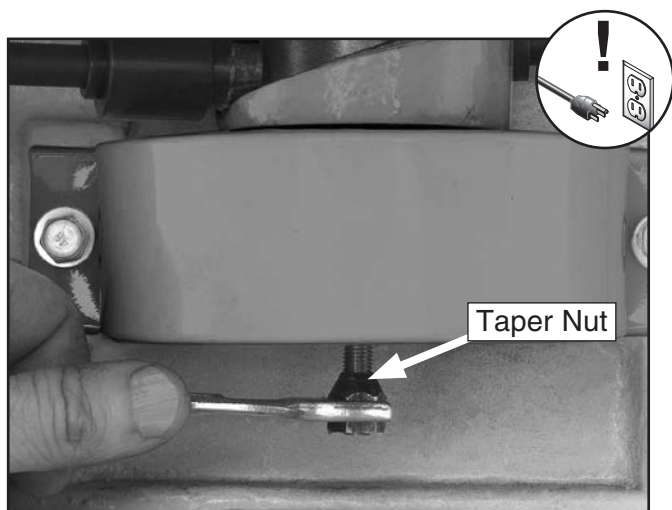

Figure 49. Removing taper nut from drawbar.
3. Remove table from shaper by removing (7) bolts and washers that secure it in place.
4. Loosen and remove taper nut (see **Figure 49**) while holding top of spindle with wrench.